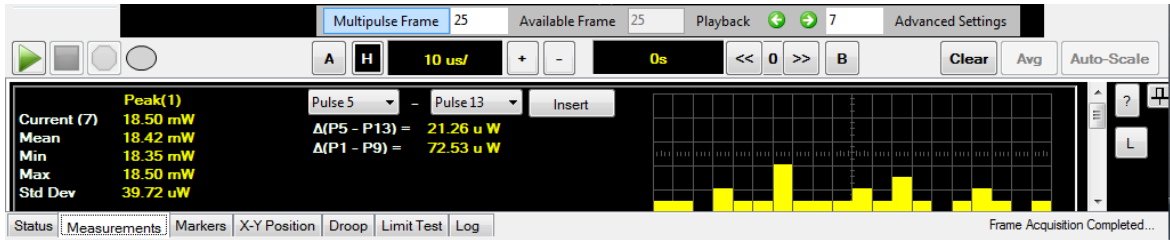

Figure 2-92 Measurement view in multipulse display
- 1 The Measurement view on the multi-purpose pane will display the desired measurement results of the multipulse and the histogram data as shown in Figure 2-92.
- 3 The delta value between two pulses can also be displayed from the measurement view as shown in Figure 2-92. Select **Insert** after selecting your desired pulses to display the delta value.